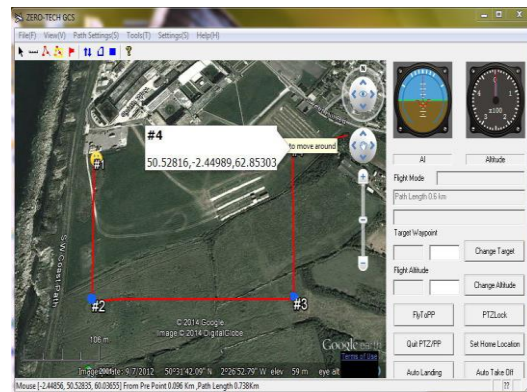

Figure 58
3. **Uploading the route to the aircraft:** right click a waypoint and click “Upload” or select “Path Settings” → “Upload Path to AP” after setting up the route. The route can also be stored as a file for use in the future. To examine whether each waypoint has been uploaded successfully, the waypoint color will change to blue indicating success, any other color would indicate failure, as shown in Figure 58.